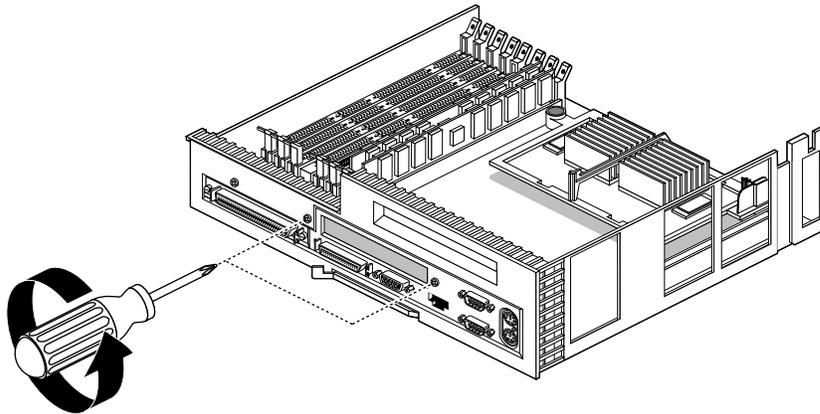

Figure 1-8 Removing the I/O Slot Panel from the R5000
- Use a Phillips screwdriver to remove the two screws that hold it (Figure 1-8).